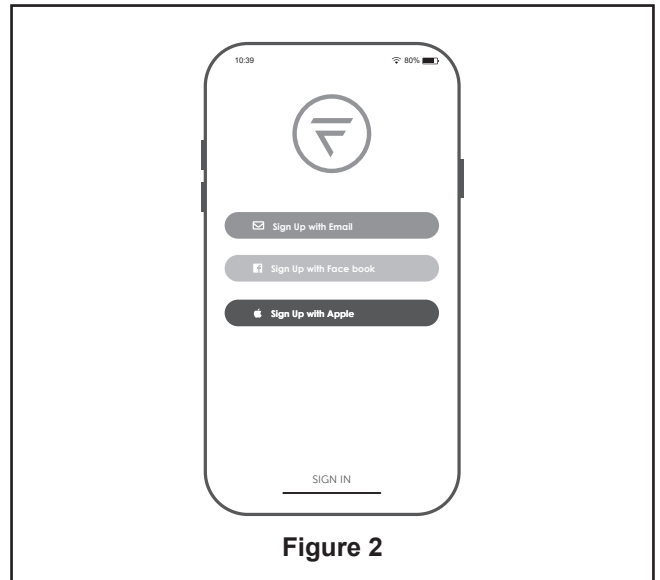

Figure 2
2. Create your account using one of the three options listed. (Figure 2)